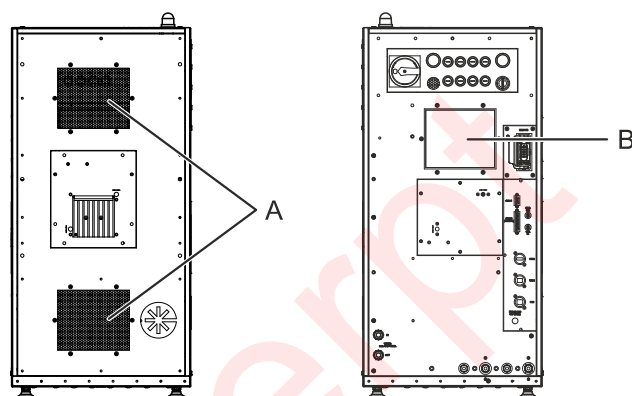

Figure 173: Location of air intake and exhaust
The COMPex laser device has two air intakes on the beam exit side (see Figure 173, A) and a central exhaust outlet with moderate flow rate on the connection side (B).